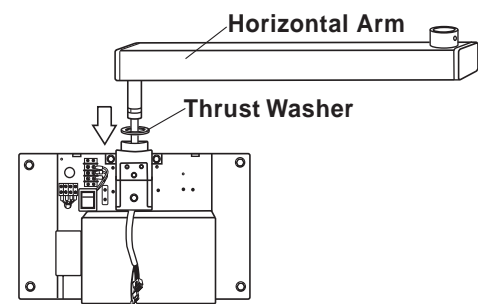

Fig.3-5 Horizontal Arm Installation-1
1. Place a thrust washer over the hole on top of the arm mounting bracket. **(Fig.3-5)**
Insert the cable and horizontal arm into the hole, and mount to the arm mounting bracket, as shown in **Fig.3-5**.